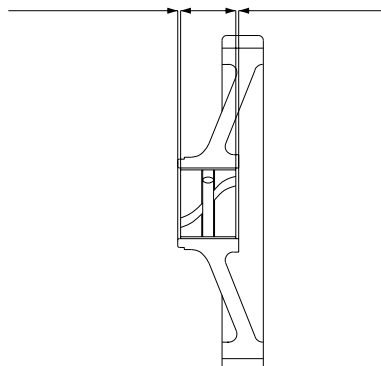

Figure 6-11. Idle Gear Bushings
- a. Refer to Figure 6-11 and use inside micrometer caliper to measure the ID of idle gear bushing. It should measure between 0.78740 and 0.78941 in. (20 and 20.051 mm).
- a. Refer to Figure 6-11 and use idle gear bushing replacing tool to press idle gear bushing out from idle gear.